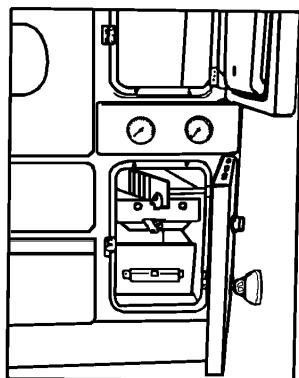
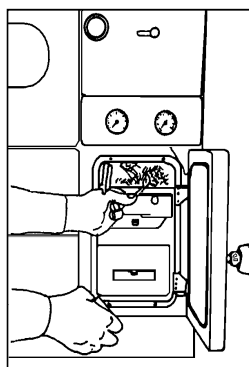
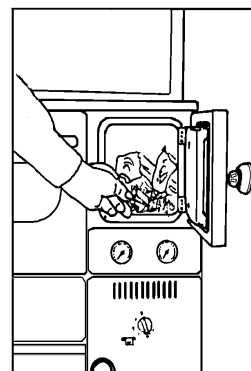

Figure 9
Figure10
Figure 11
We stoke the stove as all permanently burning stoves on solid fuels. When the grate is in lower position, we perform kindling through the open door of the ashtray and the ember holder (fig.9 and fig.10). We open the ember holder (fig.1 pos.13 and fig.9) by raising and pulling. When the grate is in upper position through the open door of the firebox (fig.11) on the grate we put paper, small pieces of chopped wood and kindle. When everything is burning well, we can fill the stove with wood or coal if the grate is in upper position. If the grate is in lower position, do not put at once all the needed heating material for full firebox, but divide it on two or three parts and put it in the firebox at intervals of 10-15 minutes on flaming heating material. The stove filled in this manner burns from 1 to 6 hours, depending on the intensity of combustion in the stove and the adjusted power regulator (thermostat).
For cooking, baking and frying in the transit period, the upper grate position is used (fig.11) so that the flame could directly reach the hob thus saving the costs for cooking, baking and heating.
- Placement of the grate in lower position (fig.9 and 10) is performed in the same manner as the upper position, provided that in the end the front part of the grate is lifted a little and through the rectangular opening of the rod carrier (fig.1 pos.25) the rod for shaking the grate should be inserted. The grate is slowly put down so that the grate notch falls in the opening of the rod for shaking the grate.